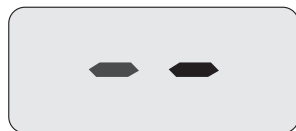
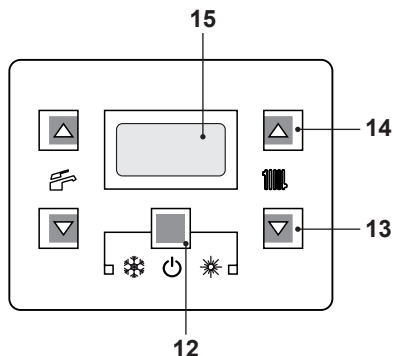

Fig. 7.10
Fig. 7.11
- Electrically power the boiler by switching on the double pole isolation switch. The LCD will display, the — — symbol (Fig. 7.10).
- Press the 12 key for 2 seconds until  symbol appear on the display Fig. 7.11.
- Switch off the boiler by pressing the 12 (Fig. 7.11) key for 2 seconds until the  symbol appears on the LCD display (Fig. 7.10).
- Press the 12 key for 2 seconds until  symbol appear on the display Fig. 7.11. The LCD display displays the boiler temperature (primary circuit) and the  symbol; the °C symbol slowly flashes Fig. 7.12.
Press the reset key on the boiler control panel 12 (Fig. 7.11) to reset its functioning.